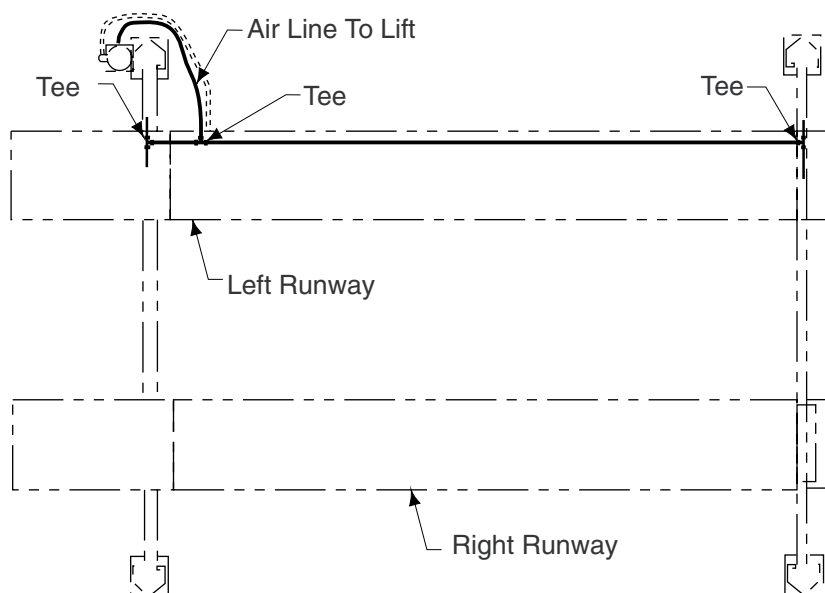

Fig. 22
- D. Run  $\frac{1}{4}$ " air line from air valve to the slot in the fixed runway. Cut airline to length required and attach to Tee in runway, Fig. 22.